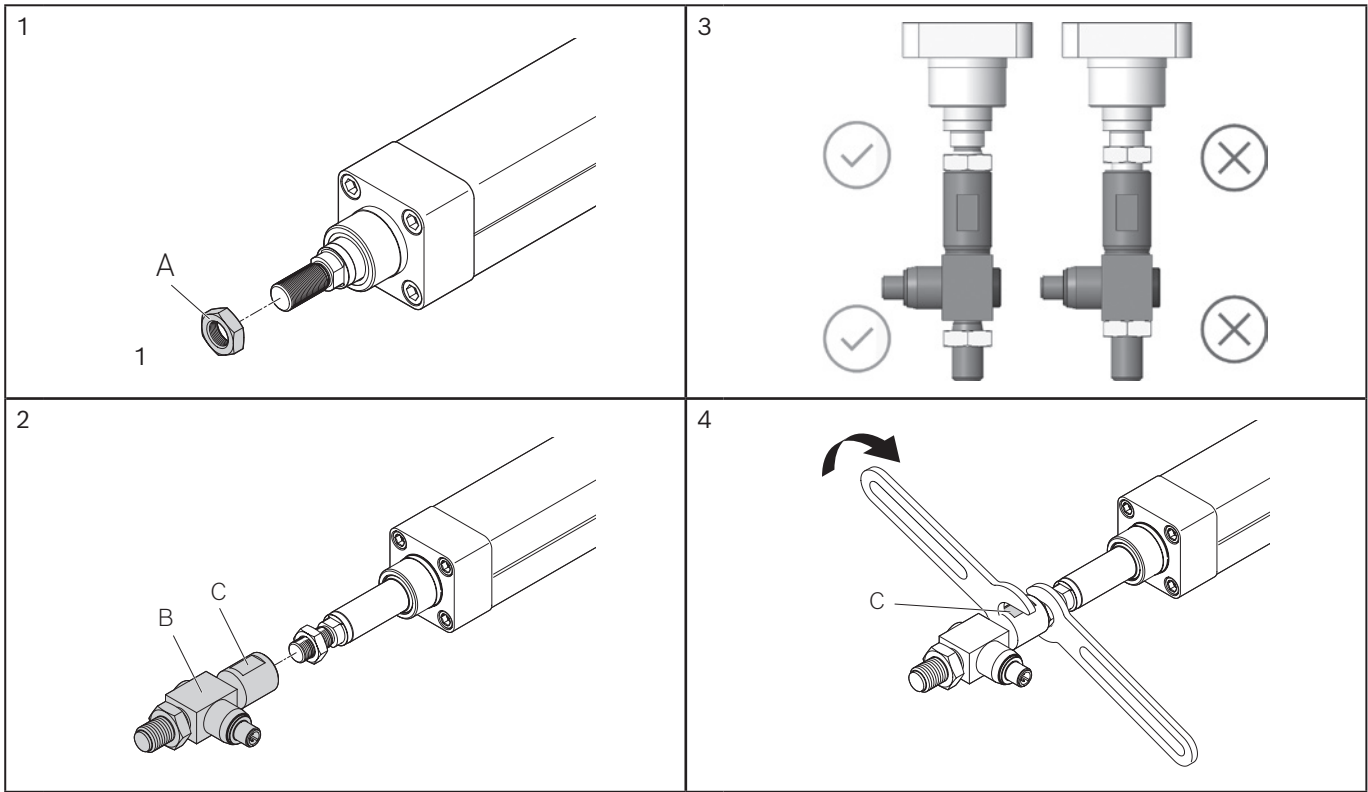

Fig. 6: Assembly, force sensor
- ▶ Lock the lock nut at a distance from the sensor body. ➡ ☒ Fig. 6; image 3